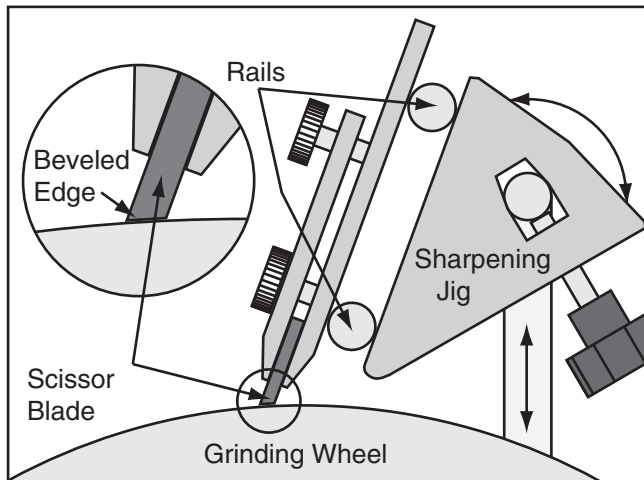

Figure 6. Adjusting angles for beveled edge of scissor blade.
8. Rest clamp against rails of jig and grinding wheel (see **Figure 6**).
9. Adjust tool rest closer to or further from grinding wheel and angle of jig until beveled edge of blade sits flat against grinding wheel (see **Figure 6**).